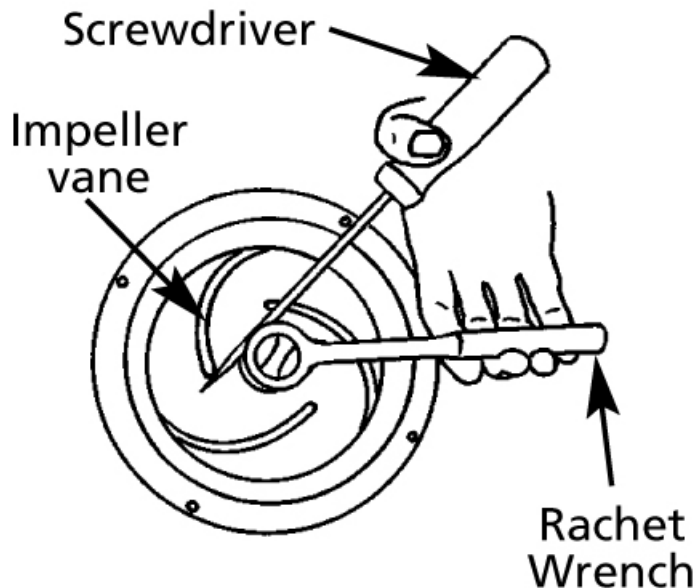

Figure 1 - Impeller Removal
Refer to Figures 1 and 2.
**NOTE:** To prevent motor shaft from turning, wedge a screwdriver between impeller vane and impeller fastener (see Figure 1).